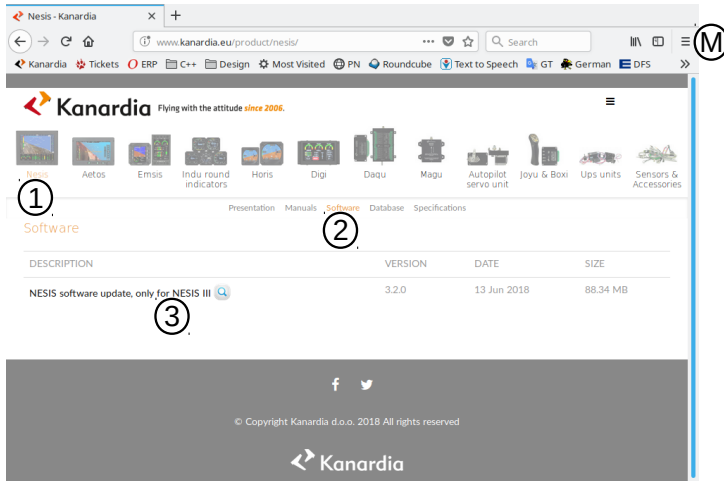

Figure 73: Illustration of the Nesis software download page. Usually only latest update is available.
- ① Open the home page and select *Nesis* icon on the top. This leads to Nesis specific page.
- ② Select *Software* next. This opens a page with Nesis specific software. An example is shown on Figure 73.
- ③ Click on the link to start download process of selected software file. Before downloading the software, a window appears asking for your email address. This is optional. Download will be completed also if address is not given.
1. Click on the \equiv menu symbol. See label (M) on Figure 73.